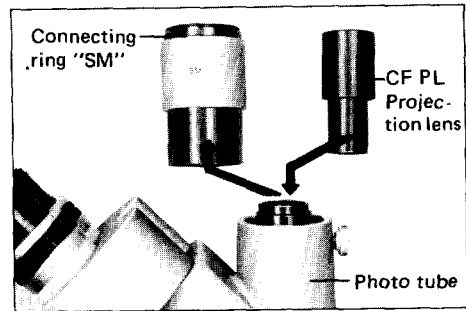

Fig. 14
- ① Remove the connecting ring "SM" from the photo tube of the trinocular tube and insert the CF PL Projection lens into the photo tube. (Fig. 14)